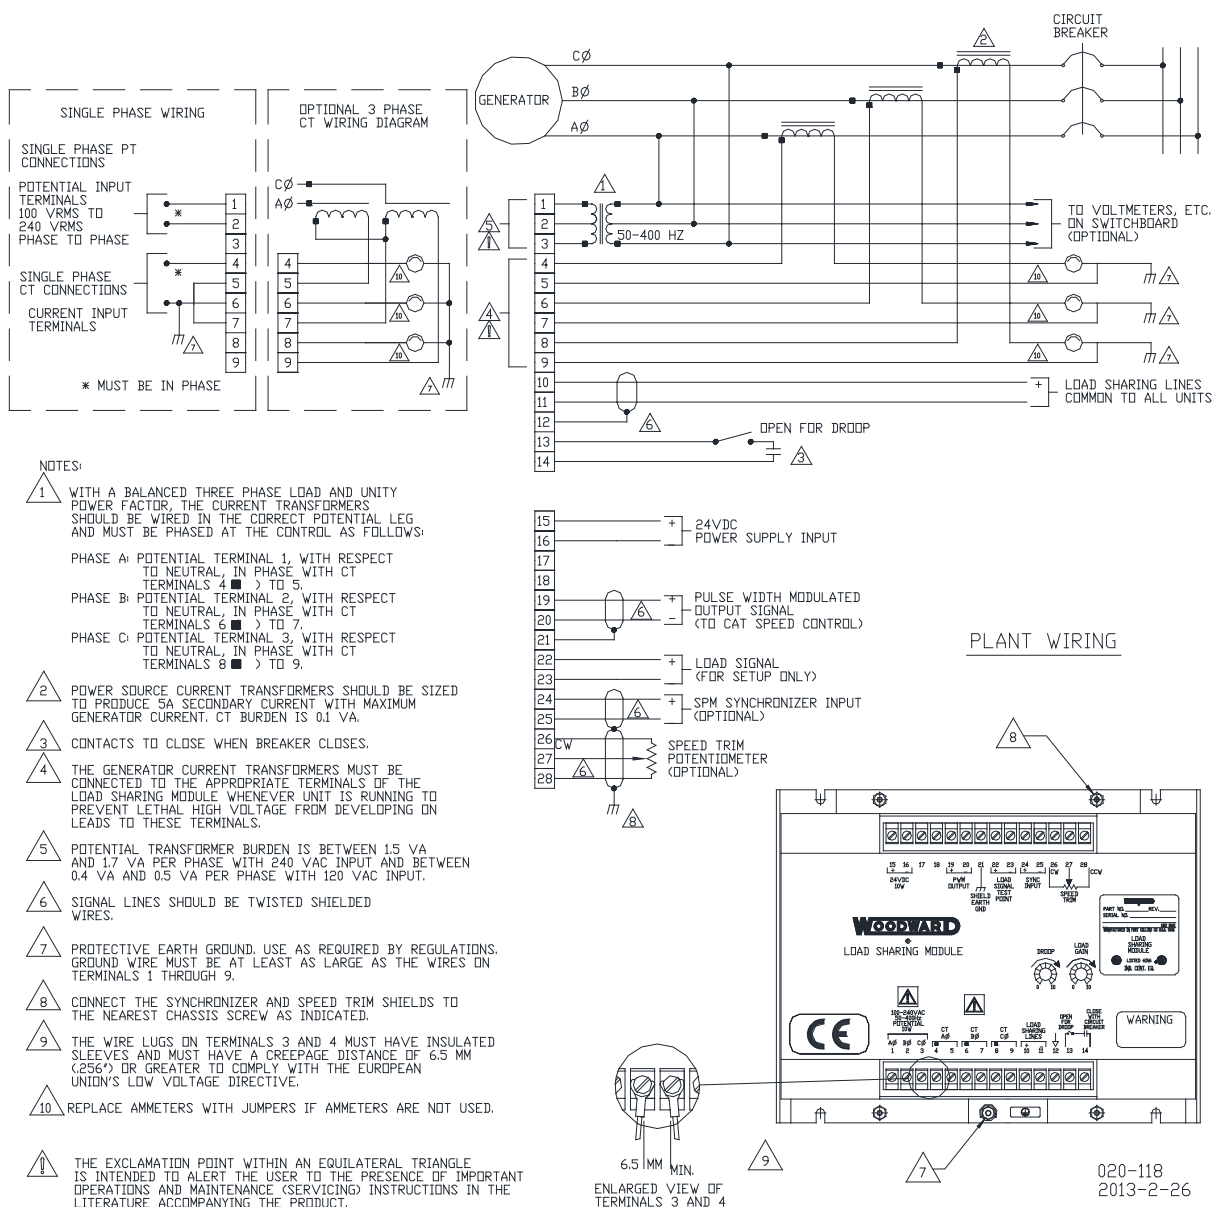

Figure 1-3. Plant Wiring Diagram of Load Sharing Module
To maintain compliance with CE and UKCA marking requirements, the EMC Directive requires that all shields be connected to the terminals provided per the plant wiring diagram, Figure 1-3.
External wiring connections and shielding requirements for a typical installation are shown in the plant wiring diagram, Figure 1-3. These wiring connections and shielding requirements are explained in more detail in this chapter.
The spacing between the lugs on terminals 3 and 4 must be 6.5 mm (0.256 inch) or greater to comply with the European Union Low Voltage Directive (see Figure 1-3). The lugs must have insulated sleeves.
Connect phase “A” CT to terminals 4 and 5. Connect phase “B” CT to terminals 6 and 7. Connect Phase “C” CT to terminals 8 and 9. Observe correct phasing as shown in the plant wiring diagram, Figure 1-3.
1. Check that the proper voltage is connected to terminals 15(+) and 16(-). Proper polarity must be maintained. See the plant wiring diagram, Figure 1-3.